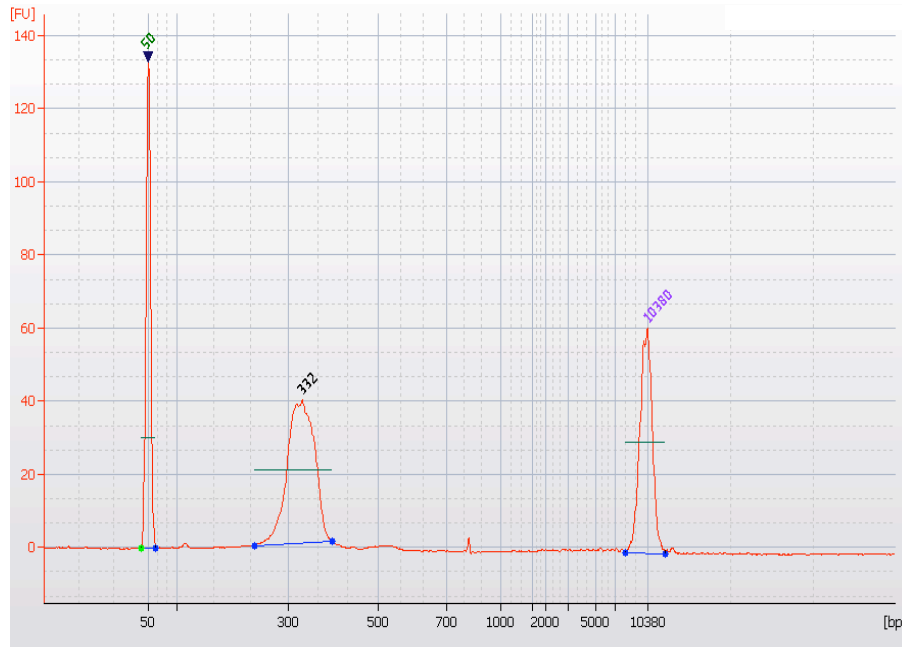

Figure 2 Example of Illumina paired end pre-capture DNA library on Agilent Bioanalyzer 2100 DNA 7500 Chip.
- (1) 5' @ 95°C
- (2) 15" @ 95°C
- (3) 15" @ 60°C
- (4) 1' @ 70°C
- (5) Repeat step (2) to (4) 7 times for total 7 cycles
- (6) 5' @ 70°C
- (7) HOLD @ 4°C
- f) Run an Agilent Bioanalyzer 2100 DNA Chip 7500 to check size distribution and quantity of PCR product. Make sure there is no excess primer left in the eluted sample (See Figure 2 for example). You should have enough DNA (>1ug) for capture hybridization.